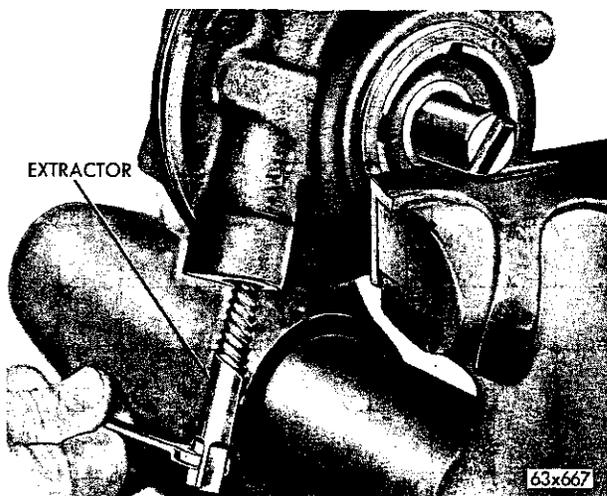

Fig. 56—Installing the Ferrule Extractor
(4) Remove the pump from the vehicle.
(5) Clamp the pump in a vise with the discharge opening in the down position, this will prevent any chips from falling into the pump.
(6) Use a No. 4 screw-extractor (E-Z Out). Turn the extractor into the ferrule (Fig. 56), then rock the extractor slightly to remove the ferrule. Perform this operation carefully so as not to damage the threads on the housing.
(7) Clean out the discharge bore of any foreign material (brass chips, dirt, etc.).